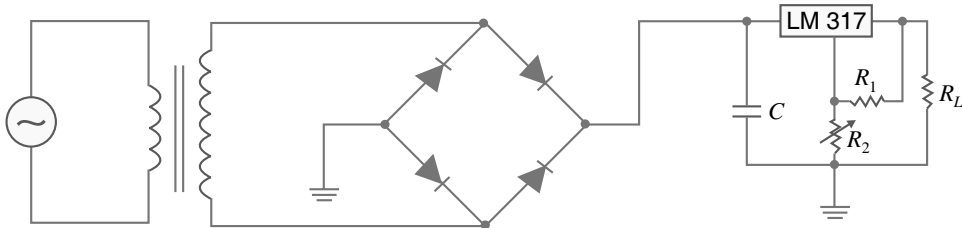

Fig. 21.17
**Example 21.2.** In the LM 317 voltage regulator shown in Fig. 21.17, determine the size of  $R_2$  to obtain an output of 10 V. Assume that  $R_1 = 240 \Omega$ .